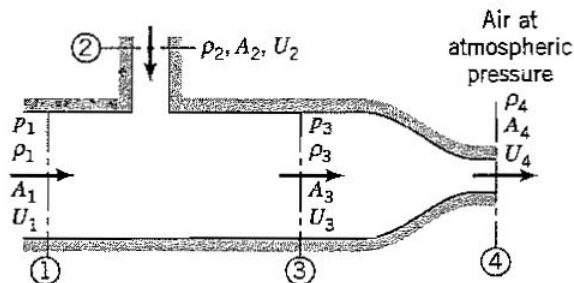

Figure P4.44
4.44 A fluid flows steadily from left to right through the duct shown in Figure P4.44. Another fluid of a different density enters from a second duct at right angles to the first. The two fluids mix together and at station 3 the resultant fluid has a uniform composition. This mixed fluid then exits without loss to atmosphere through a contraction with no further change in density. At stations 1, 2, 3 and 4 the flow properties and parameters are constant over their respective areas. Find the pressure p_1 in terms of ρ_1 , A_1 and U_1 . Ignore the effect of gravity. Assume $U_2 = 2U_1$, $\rho_2 = 3\rho_1$, $\rho_3 = 2\rho_1$, $\rho_3 = \rho_4$, $A_2 = \frac{1}{4}A_1$, $A_1 = A_3$, and $A_4 = \frac{1}{4}A_1$.